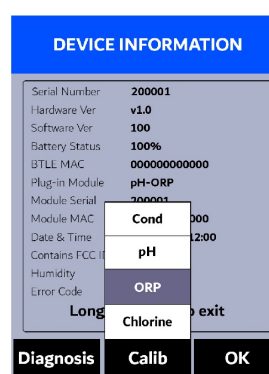

Figure 50.
6. Press **Calib** (**>**) as needed to highlight **ORP** calibration in the selection menu (Figure 50).